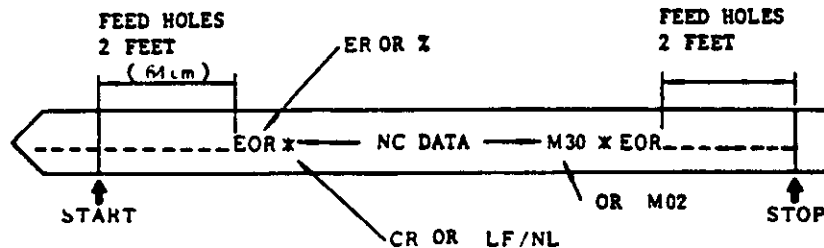

Fig. 4.7.2
- Each end of the NC tape is provided with feed holes. See Fig. 4.7.2.
- If the number of punched out characters in a block is odd, a space character for TV check is automatically punched. Each end of the NC tape is provided with feed holes, Fig. 4.7.2.